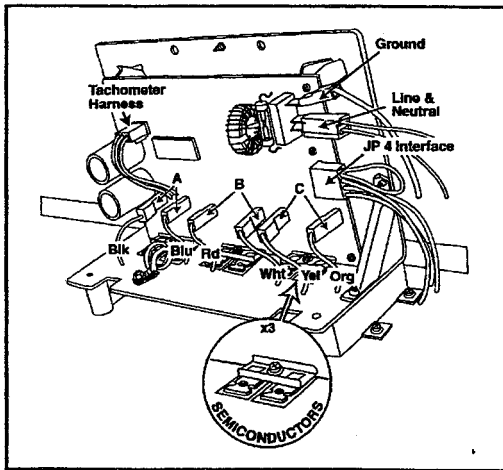

Figure 2-62
1. **Disconnect power to the machine & connect a power test cord to the Line & Neutral terminals of the Motor Control board. (*Figure 2-62*).**
- a. Check the 10 amp fuse located on the control board, either visually or with an ohm meter. If bad, replace motor control/wire harness assembly completely (*Figure 2-62*).
To gain access to the Motor Control Board terminals: (*Figure 2-62*)
6. Connect the power test cord to the Ground wire, Line 1 and Neutral wires. (Leave the JP4 connector off the board.) **(Figure 2-62).**
2. **Disconnect power to the machine** & connect a power test cord to the Line & Neutral terminals of the Motor Control board *(Figure 2-62, page 2-28)*.